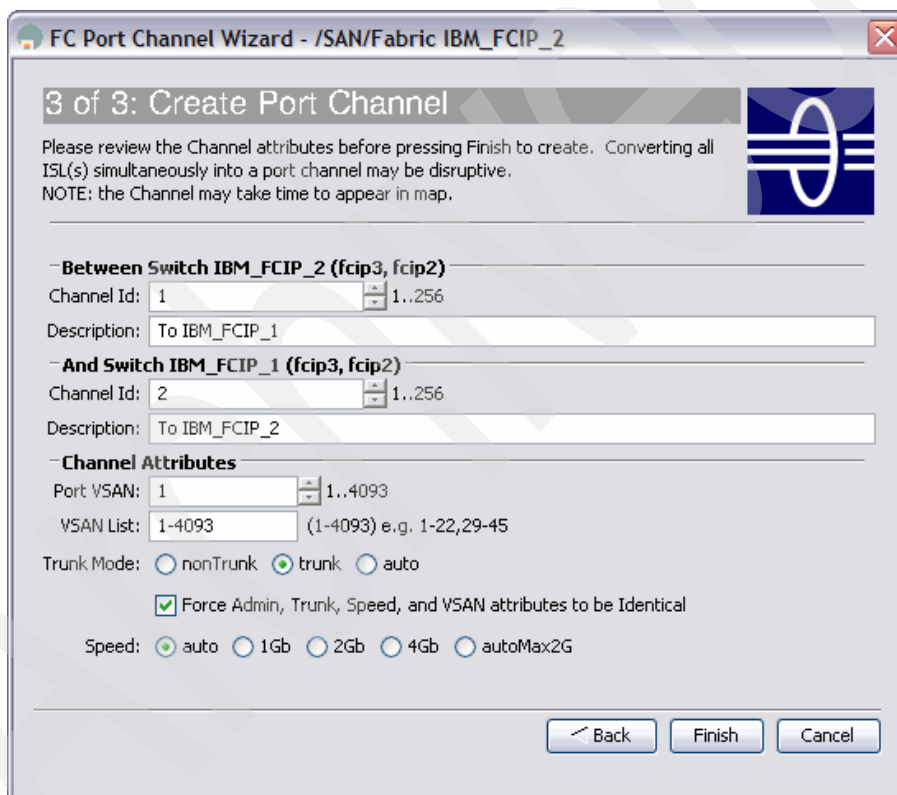

Figure 12-26 FM PortChannel wizard panel 3 of 3
- c. In the last panel of the Port Channel Wizard, shown in Figure 12-26 on page 354, we configure the Channel Id, Description, and the Trunk Mode behavior of the PortChannel. We then click **Finish** to create this PortChannel.